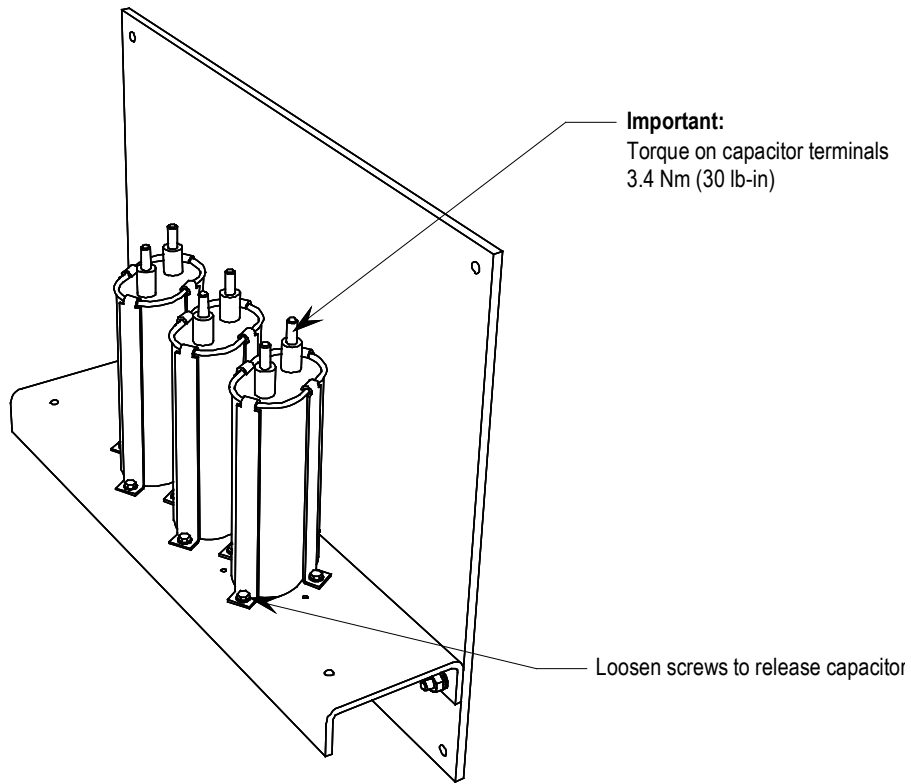

Figure 4.8 – Capacitor in Grounding Network
Each MOV panel is grounded. Ensure that one MOV (see Figure 4.8 for location) is connected to the grounding lead.
6. Reattach the leads strictly adhering to the torque requirements outlined in Figure 4.8)